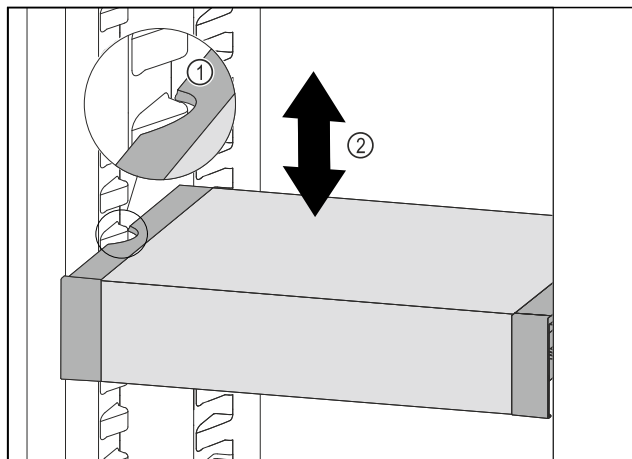

Fig. 111
- Pull VarioSafe forwards until the recesses in the side of the VarioSafe are at the level of the support rib in the refrigerator compartment. *Fig. 111 (1)*
- Move VarioSafe up or down in the refrigerator compartment until the desired height is reached. *Fig. 111 (2)*